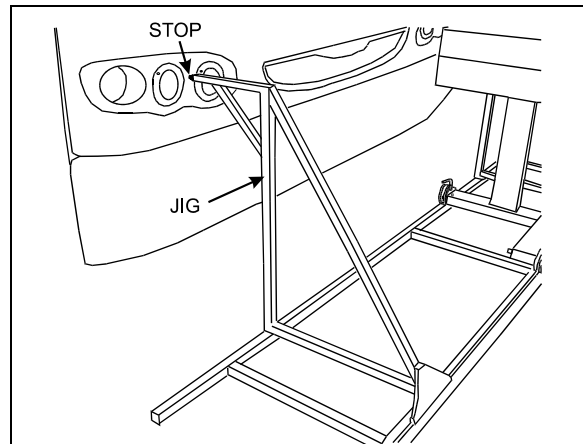

FIGURE 26: INSTALLATION OF JIGS 06499
3. Install jigs #29263 and #29262 onto the support rail. Position the support rail so that both stops are centered between the two beams (Fig. 26). Mark the position for future reference.